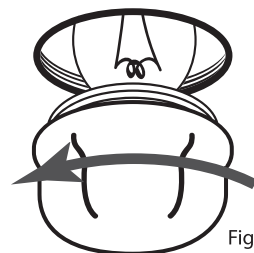

Fig.1
- Remove the cover and then the bulb fig.1.